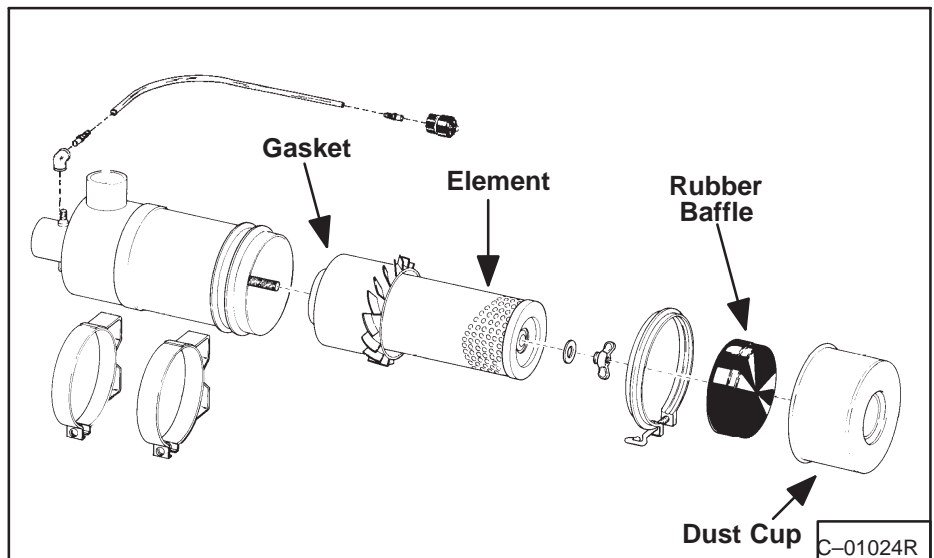

Fig. 1-13 Air Cleaner Assembly
1. Remove and clean dust cup every day (Fig. 1-13).